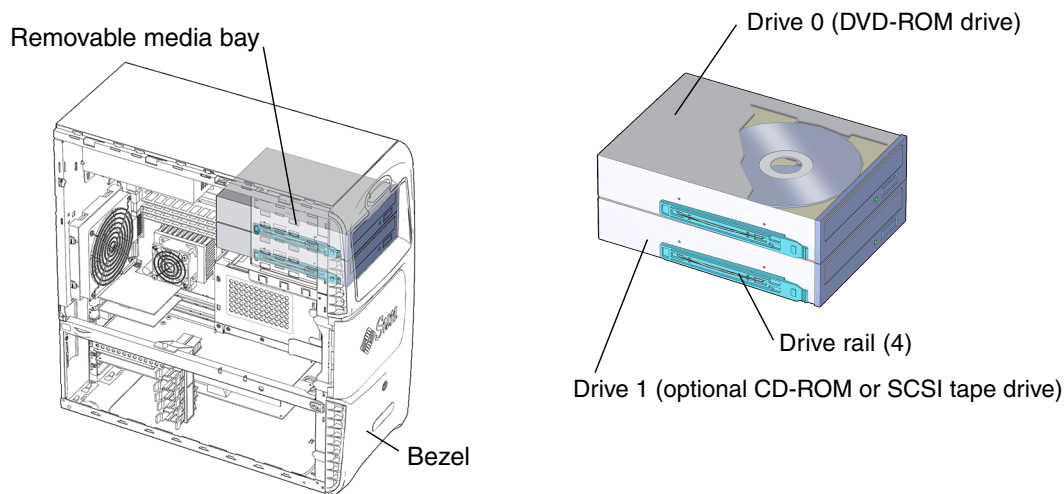

FIGURE 12-7 DVD-ROM or Media Drives Location and Identification
The workstation supports up to two media drives (FIGURE 12-7). A DVD-ROM drive is installed on drive rails that slide into the removable media bay. The DVD-ROM drive bay is accessible when the bezel is removed.
2. **Locate the DVD-ROM or media drive to be removed** (FIGURE 12-7).